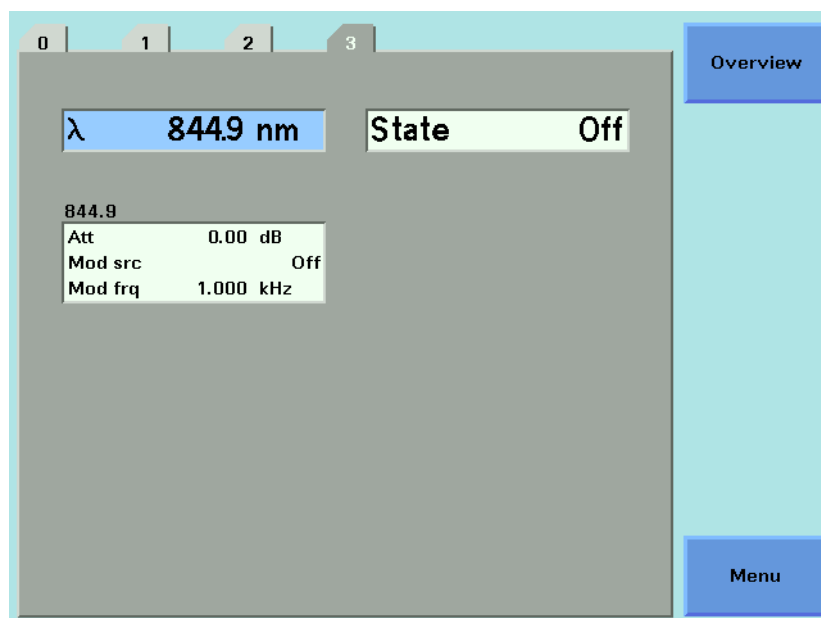

Figure 60 The Power Sensor Details Screen
- 1 Move to the laser source channel and press the [Details] softkey. You see the screen in Figure 60.